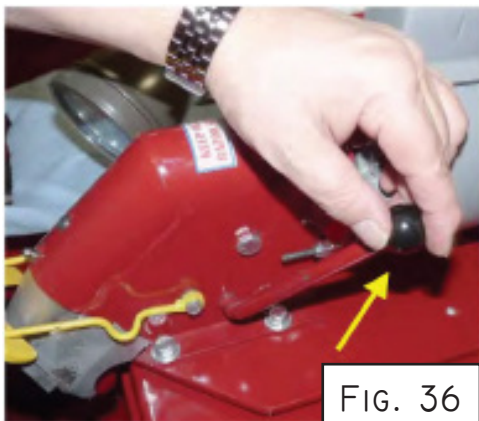
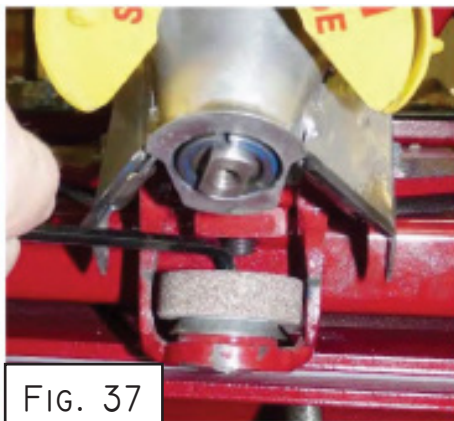

FIG. 36
FIG. 37
3. Lift the manual blade sharpening lever in Fig. 36 to lower stone cradle. As supplied with each unit, work the short ended Allen Head Wrench into the Stone-Bolt Hex, Fig. 37.
2. Using lever (Fig. 36) lift the Stone to make contact with the Cutter Blade. Grind on it for a few seconds then release so blade can briefly cool and debris can clear itself.